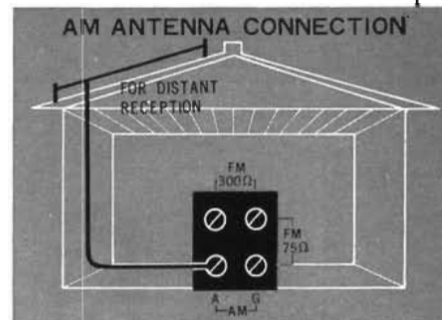

Fig. 4
AM Outdoor Antenna (Fig. 4)
1. Connect the flexible PVC wire (supplied) to the terminal screw marked AM-A on the back panel of the amplifier and install it slightly apart from your house as indicated in Fig. 4.